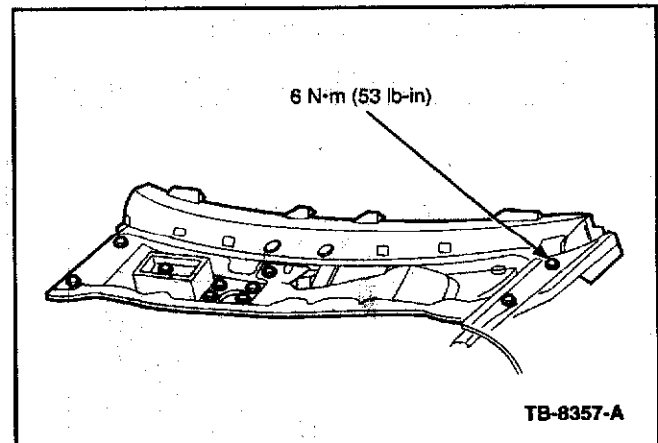

Figure 12 - Article 06-14-10
15. Install the lower cowl panel and 10 retaining bolts. (Figure 12)